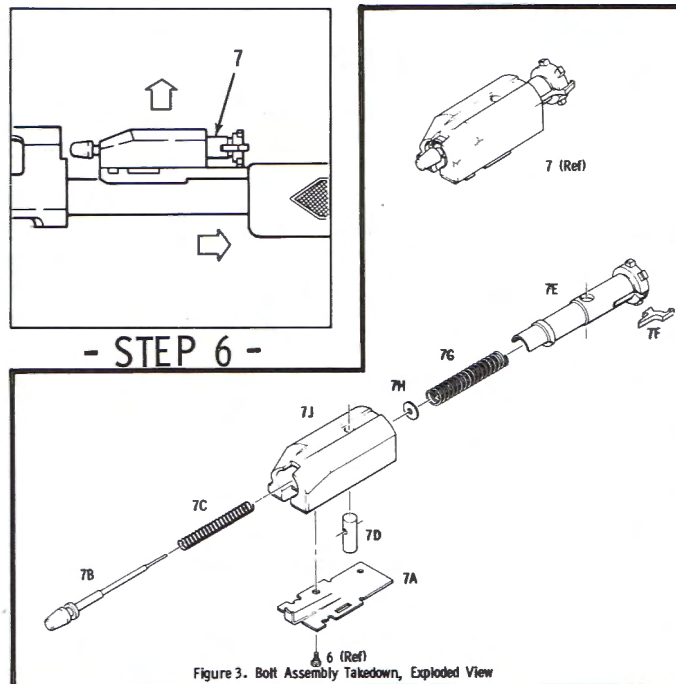

Figure 3. Bolt Assembly Takedown, Exploded View
Step 5—Remove slide arm bridge screw (6). Remove ejector (8) by using thin bladed knife to lift it off the retaining pin on inside of receiver and pulling it out the front of the receiver.
Step 6—Slide forearm forward until bolt assembly (7) exits the front of the receiver and can be lifted from slide arm extension. For bolt assembly takedown procedure see Figure 3.
to drive out the hammer pin (5K) from left to right and lift out and disassemble the grouping consisting of: two hammer spring supports (5L), hammer spring (5M), and hammer (5N). Pull out knurled trigger stop pin (5P) from right to left and lift off hammer housing (5R). If desired hammer support pin (5S) can be removed by spreading housing slightly. Remove trigger assembly (5T) and safety (5U) from trigger guard (5V). Bolt assembly takedown procedure—Figure 3